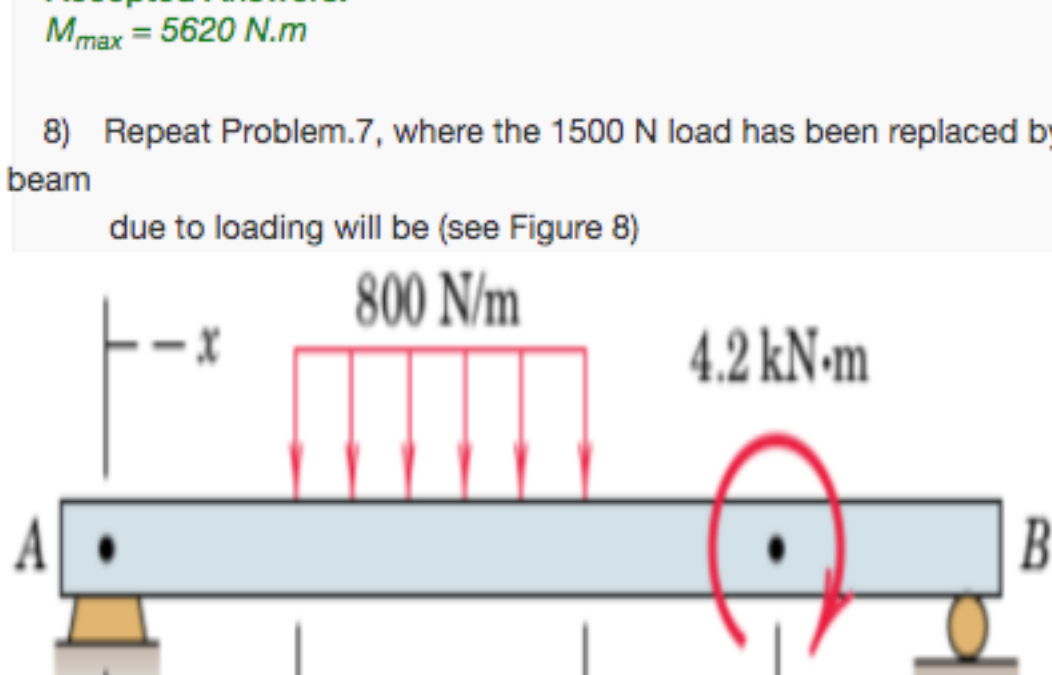

Figure 8: Figure for question No.8
8) Repeat Problem.7, where the 1500 N load has been replaced by the 4.2 kN.m couple. Now the maximum bending moment M_{max} produced in the beam due to loading will be (see Figure 8) **1 point**